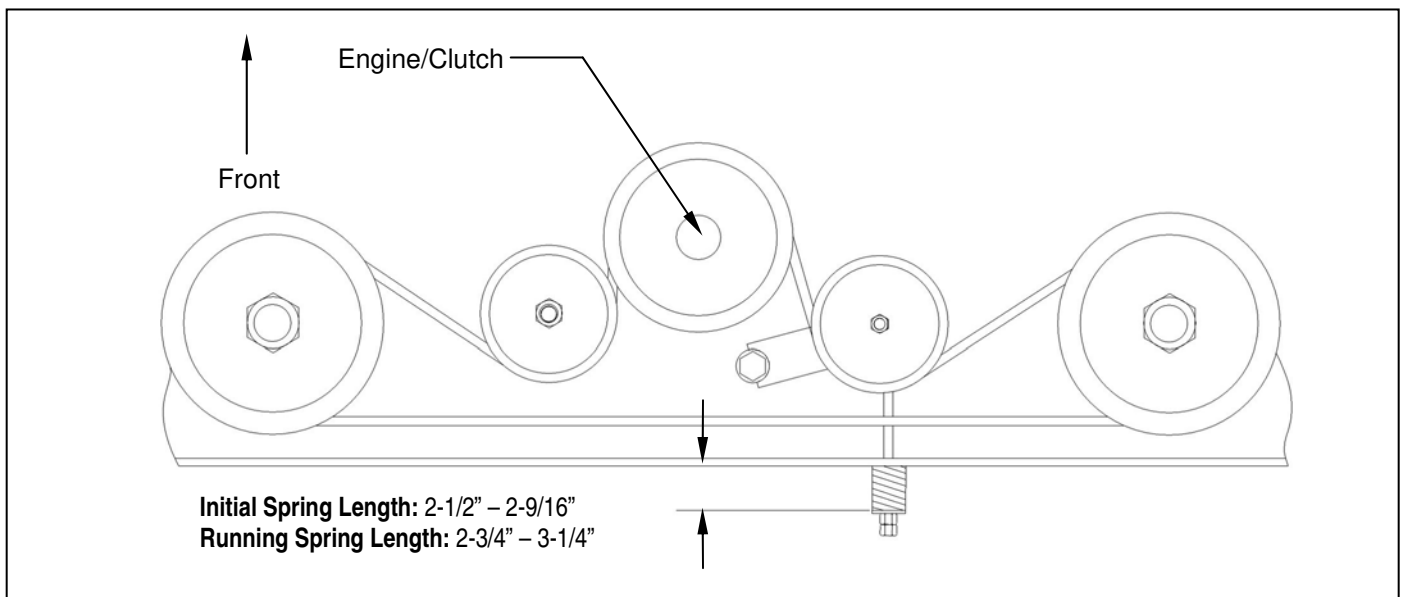

Figure 7: Belt Pattern and Spring Adjustment
F. DRIVE BELT REMOVAL AND TENSION – *Refer to Figure 7*
Install the new belt and then adjust the tension as follows: **See Figure 7.**